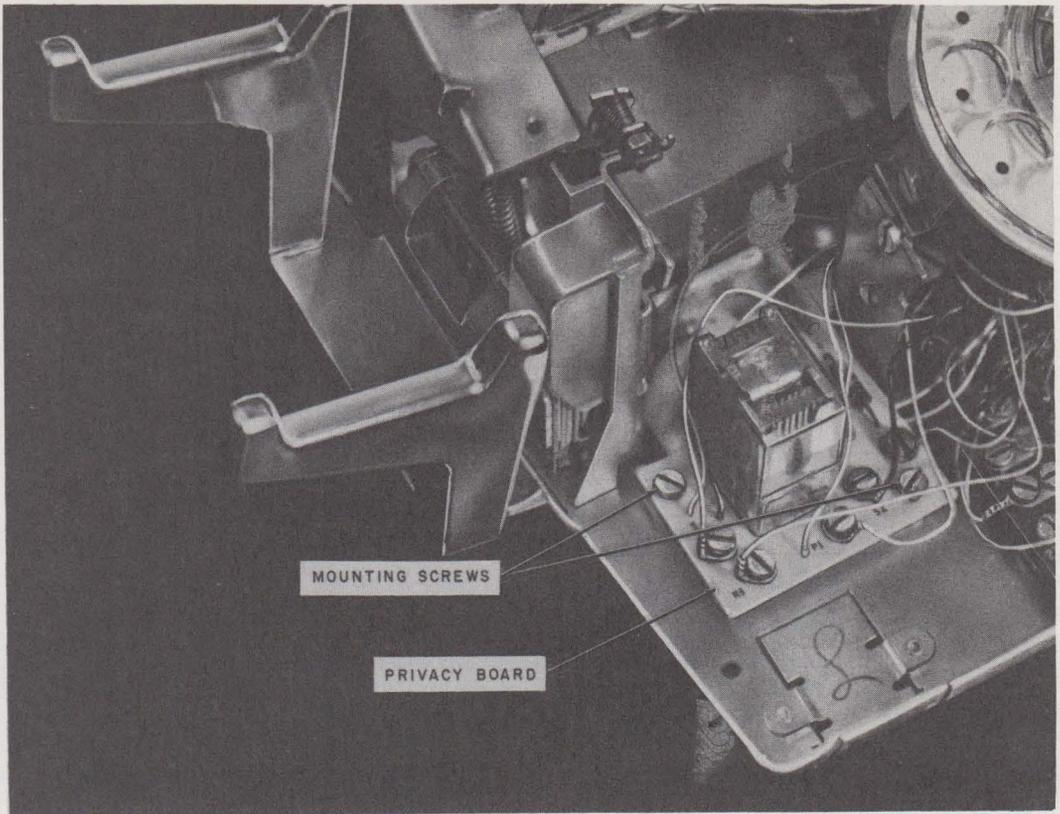

Fig. 43—Privacy Circuit Mounted in Telephone Set
- (1) Remove faceplate.
- (2) Mount privacy circuit board on the two standoffs located at the left front of the telephone set base (Fig. 43).
- (3) Fasten privacy circuit board to standoffs using mounting screws furnished with the telephone set.
- (4) Connect leads according to Table D.
- (5) To test privacy circuit: